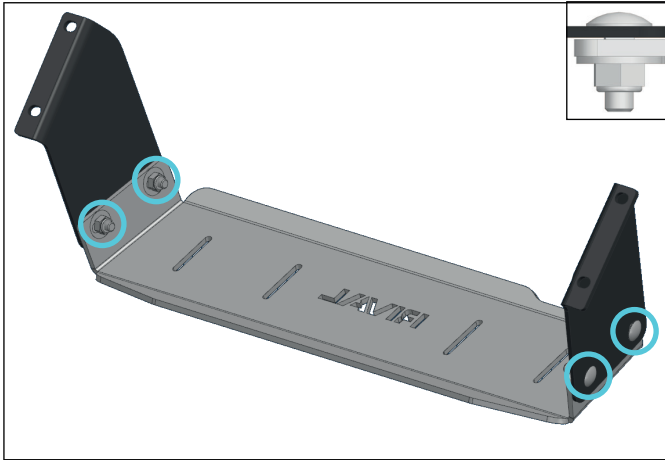

Fig. 1
1. Install mounting brackets (items 2,3) to skid plate (item 1) and secure them using bolts M10x1.5x30 (item B), washers M10 (item E) and nuts M10 (item C) as shown in fig. 1.